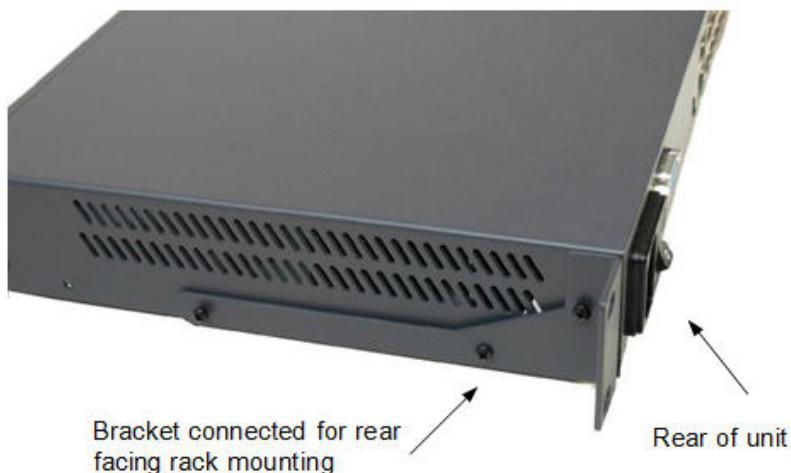

Figure 4 – Bracket Connected for Rear Facing
- Figure 4 illustrates the bracket connected for rear facing.